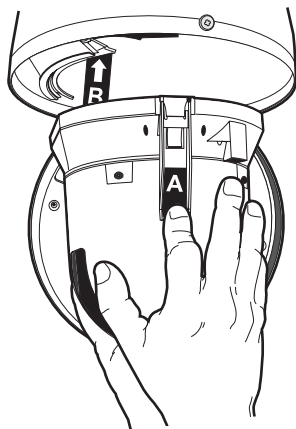

Figure 11. Spectra III/Spectra IV Dome Drive Installation
8. Install the dome drive. Line up the blue (A) and red (B) tabs with the blue (A) and red (B) labels. When pushing the tabs in, insert one side, then the other. Continue pushing on the ends of the tabs until both tabs click into place. Refer to Figure 11.